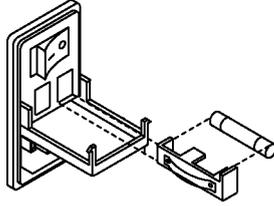

Figure 4-2. Removing Fuse from Fuse Holder
- Slide the fuse holder straight out of the power input module, then remove the fuse from the fuse holder as shown in Figure 4-2.